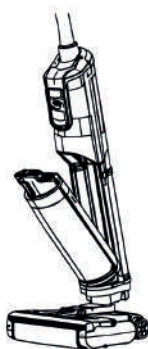

Fig. 8
1. Position the lower part of the dirty water tank into the designated slot at the bottom of the main unit (see Fig. 8).